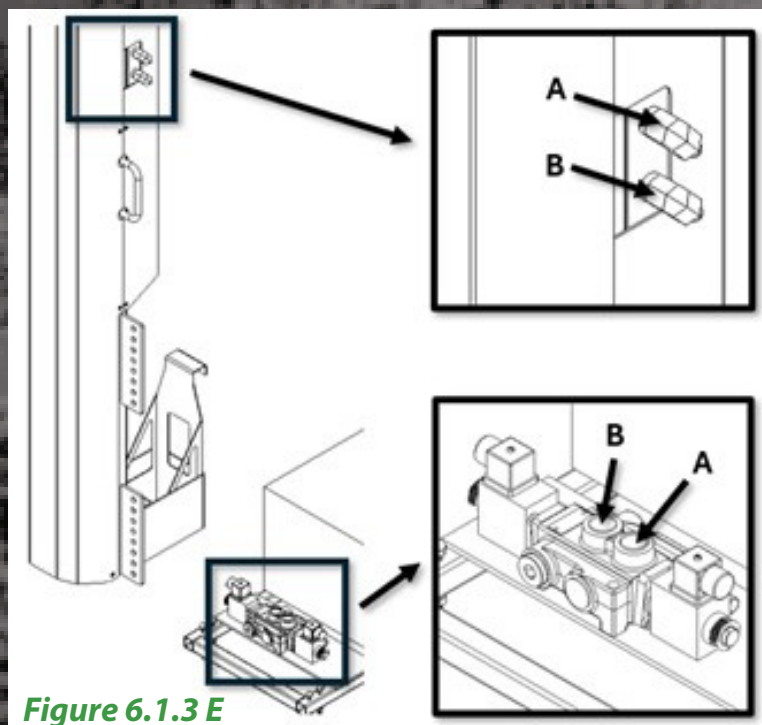

Figure 6.1.3 E
- Connect the hydraulic hoses—A to A, B to B—as shown in *Figure 6.1.3 F*.